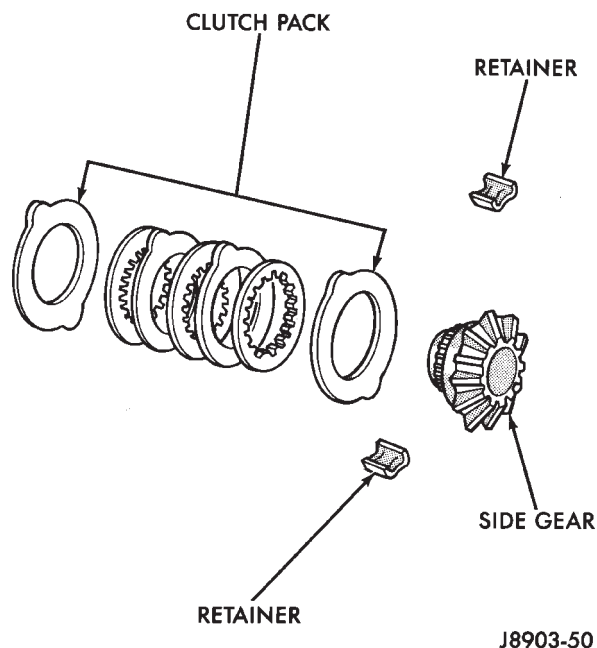
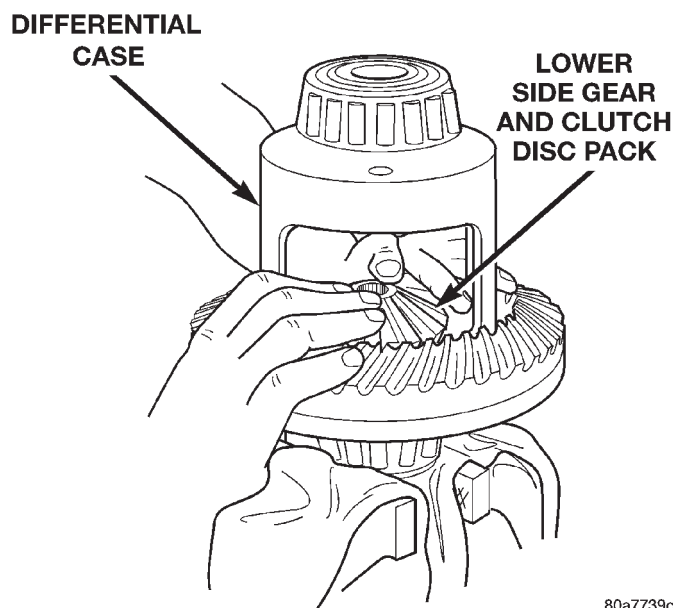

Fig. 61 Clutch Disc Pack
Fig. 62 Clutch Discs & Lower Side Gear Installation
(1) Assemble the clutch discs into packs and secure disc packs with retaining clips (Fig. 61).
(2) Position assembled clutch disc packs on the side gear hubs.
(3) Install clutch pack and side gear in the ring gear side of the differential case (Fig. 62). **Be sure clutch pack retaining clips remain in position and are seated in the case pockets.**